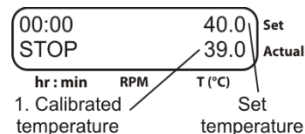

Fig. 6. Control panel after calibration
- 6.4.8. The display will show calibrated temperature as shown on fig. 6/1 and the unit will continue thermal stabilization according to the previously set temperature.